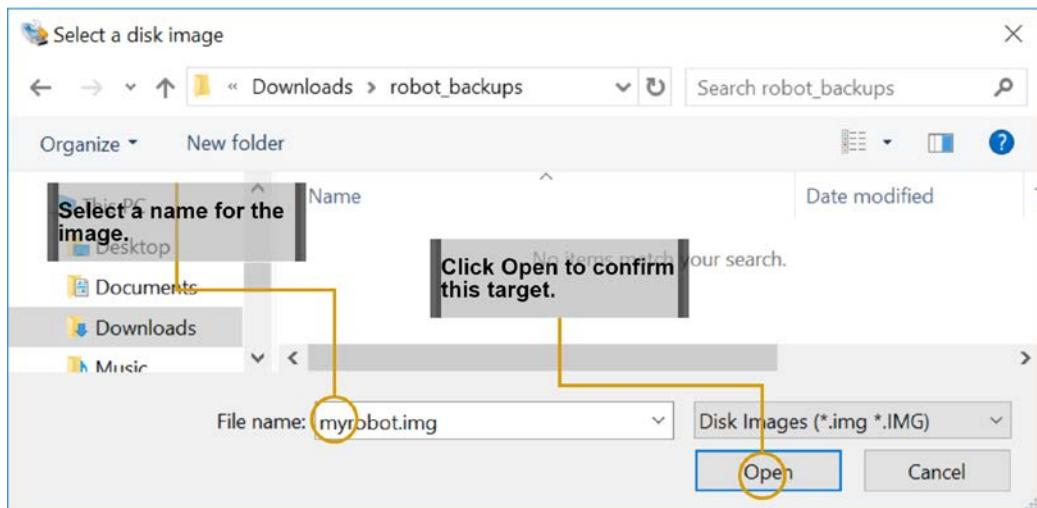

Figure 5.5 – Choose the location
4. In *Figure 5.5*, I name my image `myrobot.img` in the **File name** box. You then click the **Open** button to confirm this: